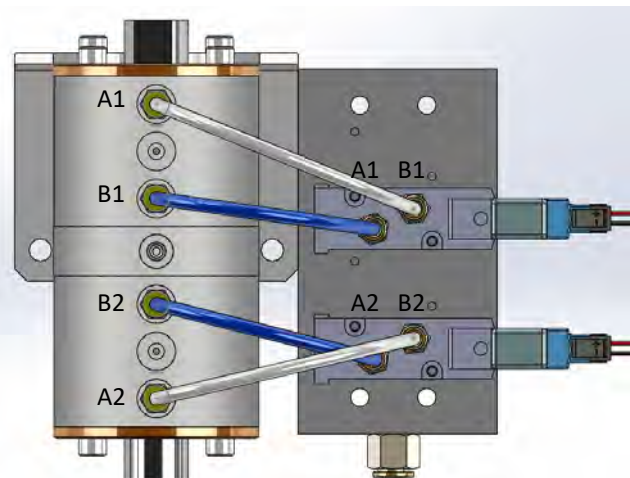

Figure 3-6: Normally Open CV-310 Valve
- If normally-open operation is desired for a CV-310 Valve, connect the solenoid pilot valves to the CV-310 Valve as shown in Figure 3-6.